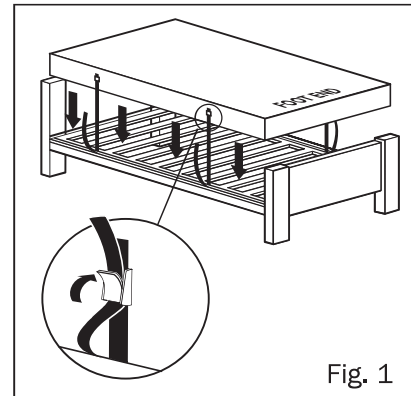

Fig. 1
3. Secure the mattress to the bed frame/existing mattress using adjustable straps - pass straps beneath or around bed frame mattress platform/bed mattress and secure with the buckles (Fig. 1), allowing for moving components on electric bed frames. This is important as it stops the mattress becoming detached from the bed frame/existing bed mattress and causing possible injury to the patient. A strap extension kit is available for use with divan beds (part number 97-50-10-153).